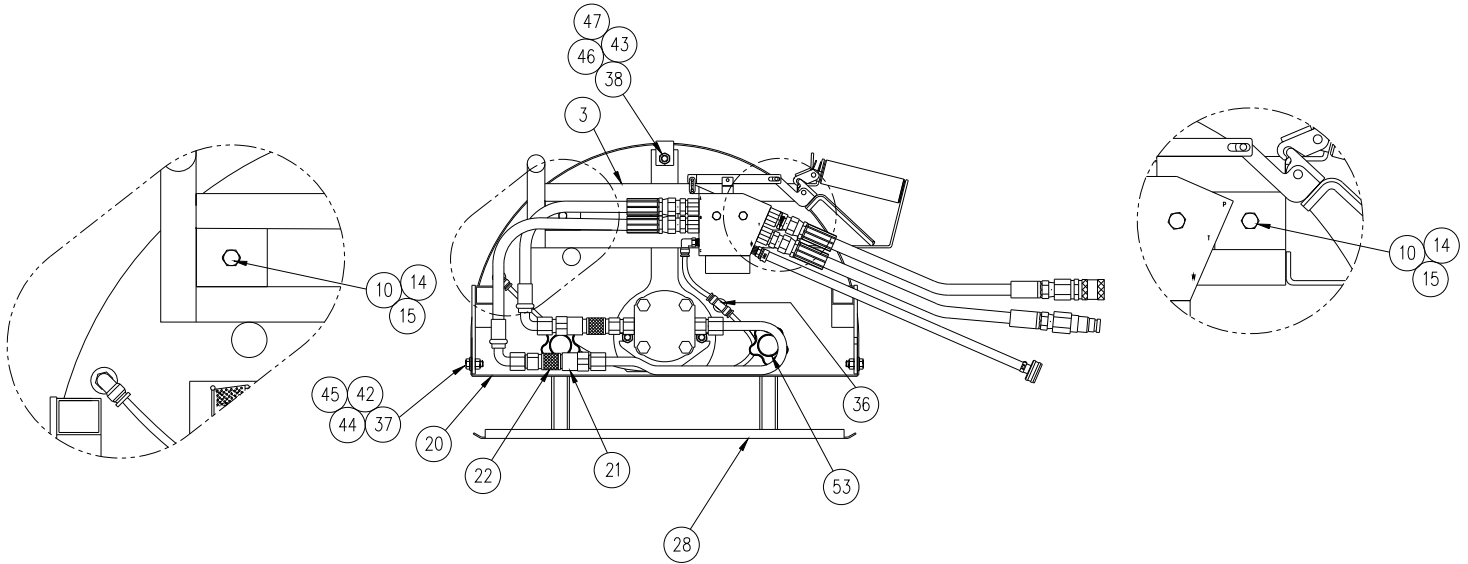

Figure 3-1
2. **Refer to figure 3-1.** Disconnect the quick disconnects for the hydraulic lines (items #21 and #22). Disconnect the water line from the quick disconnect on the motor and guard body (item #36). Remove the handsaw handle assembly by removing (2) 1/4-20 hex head cap screws (item #10). Remove the guard face from the guard body (item #30) by removing 3/8-16 hex nut (item #38) and (2) 5/16-18 hex head cap screws and hex nuts (items #37 and #42).